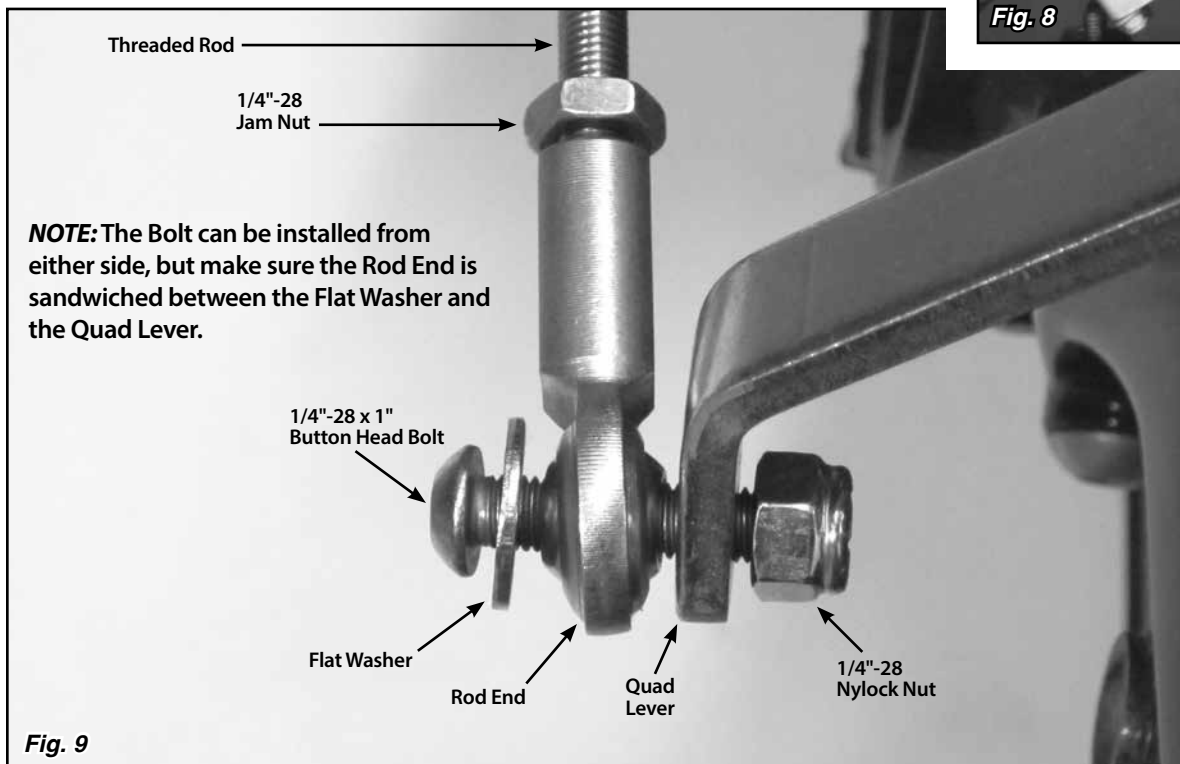

Fig. 9
Step 14: Verify that both 1/4"-28 jam nuts are on the threaded rod, and install a rod end onto each end of the threaded rod. Attach the threaded rod assembly to the **outside** of the quad lever and to the **inside** of the trans arm using the 1/4"-28 x 1" button head bolts, flat washers, and nylock nuts as shown in **Fig. 9** and **Fig. 10**. The button head bolts can be installed from either direction, but make sure the rod end is sandwiched between the flat washer and the quad lever or trans arm.